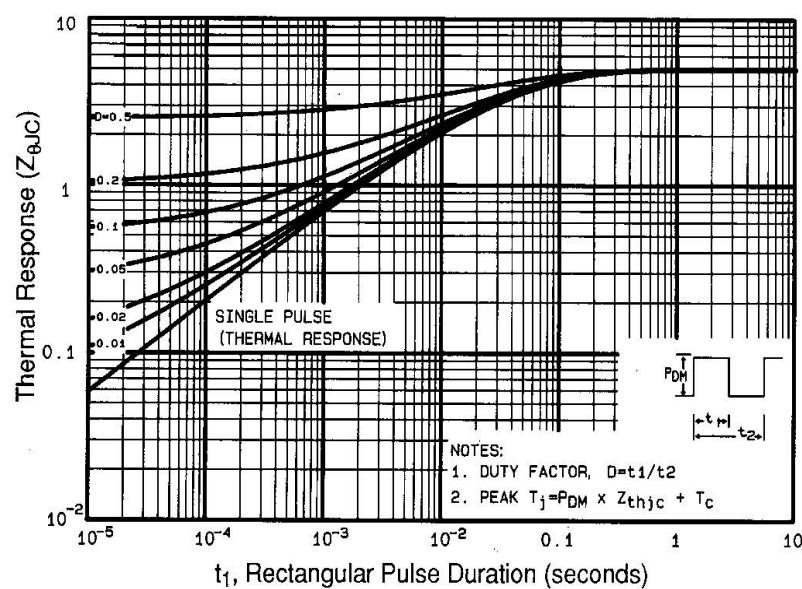

Fig 11. Maximum Effective Transient Thermal Impedance, Junction-to-Case
① Repetitive rating; pulse width limited by max. junction temperature (See Figure 11)
③ $I_{\text{SD}} \leq 2.2\text{A}$, $di/dt \leq 65\text{A}/\mu\text{s}$, $V_{\text{DD}} \leq V_{(\text{BR})\text{DSS}}$, $T_J \leq 150^\circ\text{C}$
② $V_{\text{DD}}=50\text{V}$, starting $T_J=25^\circ\text{C}$, $L=62\text{mH}$